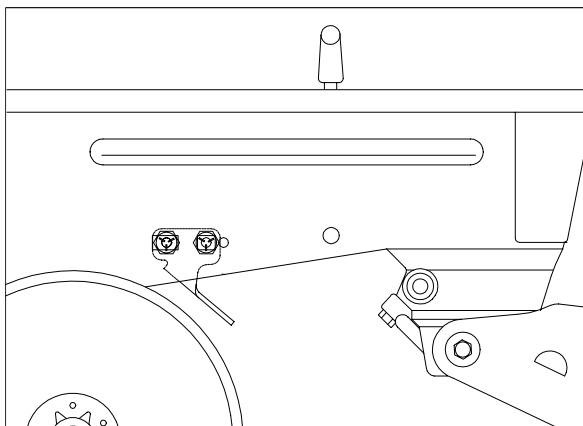

Figure 6
3. Insert Seed-Lok™ mount (#3) from the bottom side of the opener body and align the holes of the mount with those of the channel, see Figure 6.